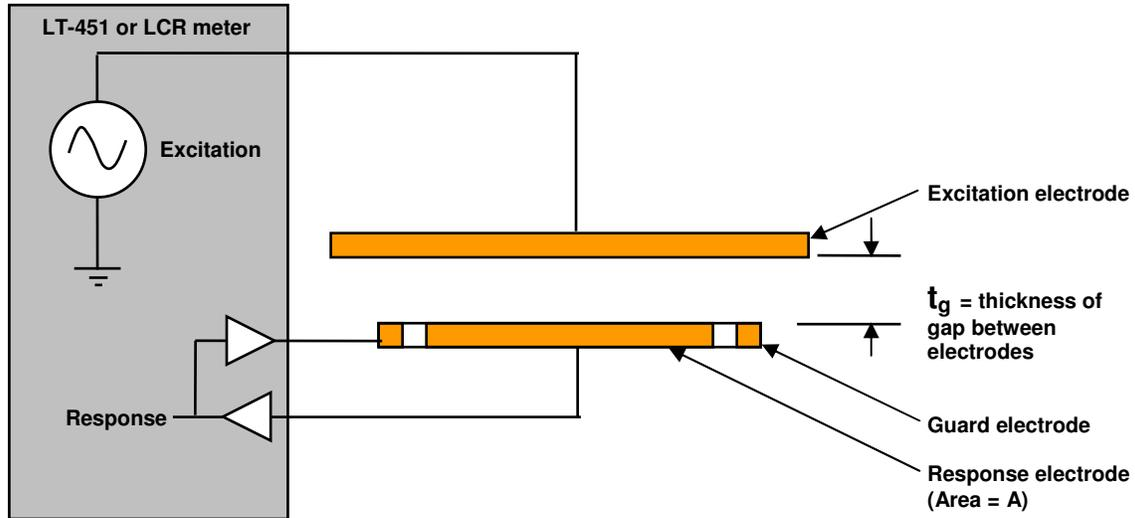
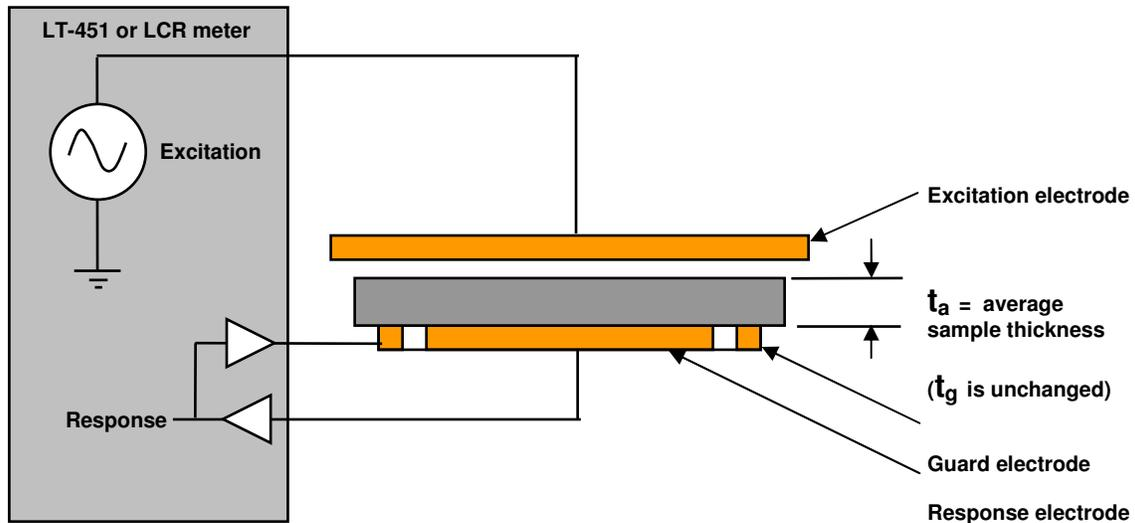

Figure 11a
Figure 11b
The non-contacting electrode method can obtain accurate results for dielectric properties in the presence of an air gap, but requires two measurements. One measurement determines the capacitance and dissipation of the test fixture at a known separation with only air between the electrodes, as shown in Figure 11a. The other measurement determines the capacitance and dissipation at the same separation with the sample inserted between the electrodes, as shown in Figure 11b. For this method the air gap and the compressibility of the MUT do not affect the results.
C_{P1} = Capacitance (F) without MUT inserted (Fig. 11a)
R_{P1} = Resistance (Ω) without MUT inserted (Fig. 11a)
$\tan\delta_{P1}$ = Dissipation without MUT inserted (Fig. 11a)
C_{P2} = Capacitance (F) with MUT inserted (Fig. 11b)
R_{P2} = Resistance (Ω) with MUT inserted (Fig. 11b)
$\tan\delta_{P2}$ = Dissipation with MUT inserted (Fig. 11b)